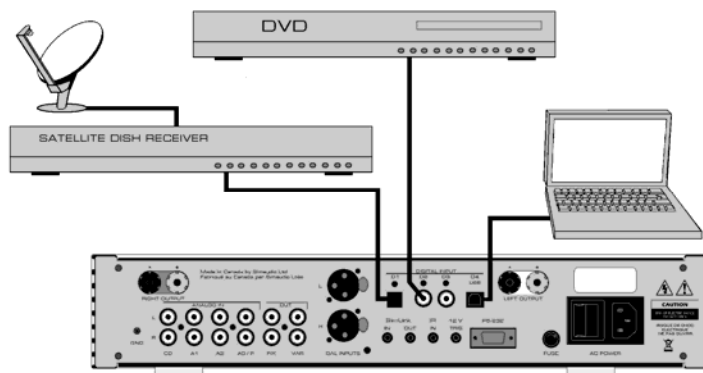

Figure 2: MOON 350P Optional Digital Inputs – connection examples
There are two (2) different settings available for setting the resistive load; 100Ω and 47kΩ which are represented by jumper sockets R9 for the left channel and jumper socket R24 for the right channel (refer to figure 2 – section labeled "LOADING"). The factory default setting is 47kΩ, therefore both jumpers will be found in each of the two left most sockets.
There are two (2) different settings available for the capacitive load; 0pF and 100pF which are represented by jumper sockets C9 for the left channel and jumper sockets C17 for the right channel (refer to figure 2 – section labeled "LOADING"). The factory default setting is 100pF for a moving magnet cartridge, therefore both jumpers will be found in each of the two right most sockets.
There are two (2) different settings available for gain level. They are 40dB for MM cartridges and 60dB for MC cartridges, which are represented by jumper socket J17 for the left channel and jumper socket J22 for the right channel (refer to figure 2 – section labeled "GAIN"). The factory default setting is for a MM cartridge, therefore both jumpers will be found in each of the two right most sockets labeled MM; ***It is highly recommended that you do not use the jumpers labeled MC for an MM cartridge as this will overload the preamplifier.*** In the event that you're using a MC cartridge, you should insert the supplied jumpers into each of the two left-most sockets labeled MC.